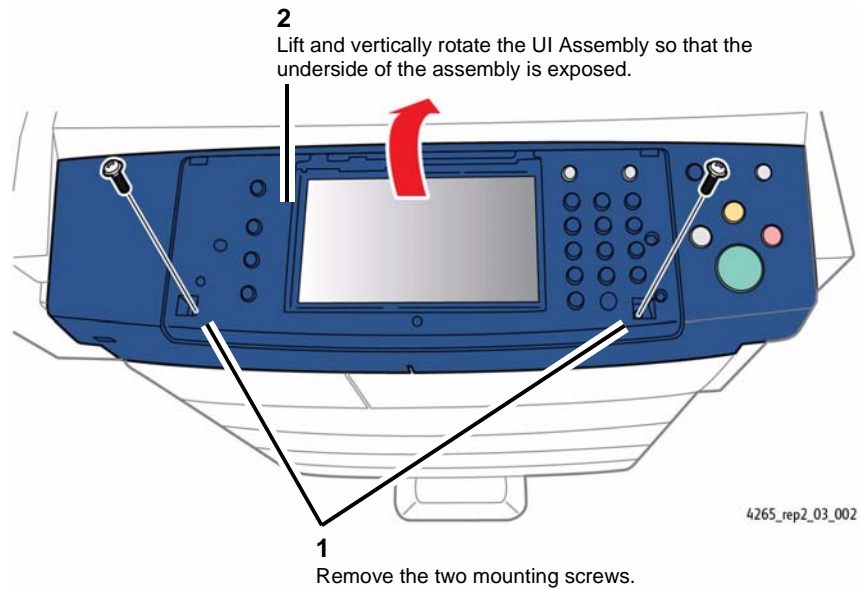

Figure 2 Detaching/Rotating the Housing Panel
2. Detach and rotate the Housing Panel (Figure 2).